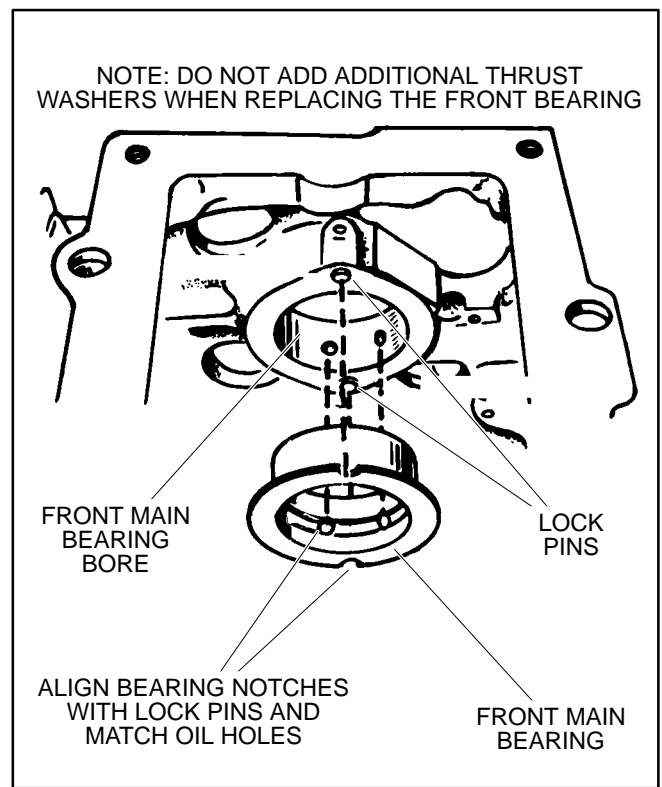

FIGURE 58. FRONT CRANKSHAFT BEARING
2. Reinstall the original front thrust bearing if it is still usable or has not been replaced by the combination thrust/shell bearing (Figure 58). The flat side goes against the block and the notches should clear the lock pins. Liberally oil the thrust and shell bearing surfaces.
**Front Bearing:** See Figure 58. Use Loctite brand Bearing Mount or equivalent when installing the front bearing in its bore in the block. Use the tow-lette furnished with the bearing kit to clean the outside of the bearing and its bore in the block. Apply the Loctite to the outside of the bearing and to the mating surface of the bore in the block. Allow three to four minutes for drying.